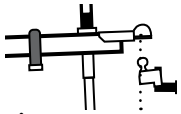

Figure 29
1. With the Fastway hitch head installed, position the hitch ball directly under the trailer coupler. (Figure 29)